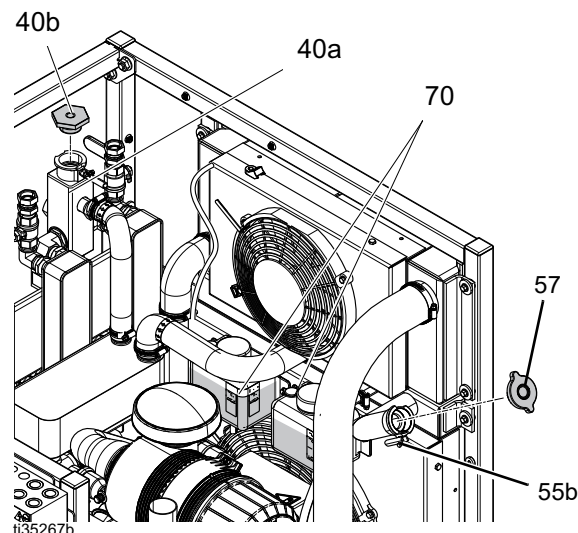
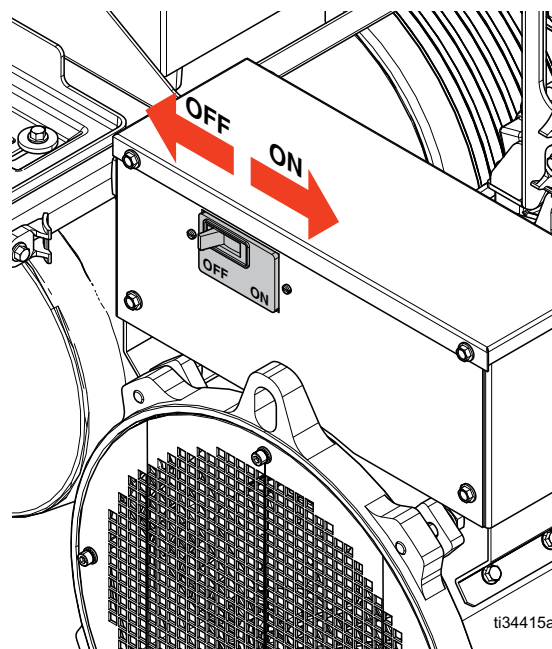

FIG. 7
FIG. 8: Main 90 A Circuit Breaker Power Switch
10. When the coolant reaches an operating temperature of 185 °F (85 °C) or higher, turn the main 90 A circuit breaker (229) to off. See FIG. 8.
2. Remove the engine coolant fill cap (57).
3. Fill the engine coolant fill port with coolant. Fill to the engine coolant expansion port barb fitting (55b). See FIG. 7, page 14.
4. Replace the engine coolant fill cap (57).
9. Turn the main 90 A circuit breaker (229) to on. See FIG. 8, page 14.
11. When the coolant reaches an operating temperature of 185 °F (85 °C) or higher, turn the main 90 A circuit breaker to off. See FIG. 8, page 14.